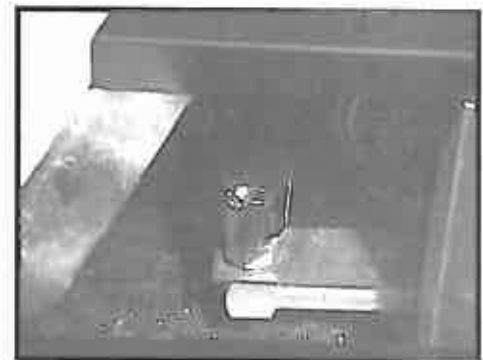

Figure 34 - Air Shutter
- c. To prevent the possibility of soot buildup, we have provided your fireplace with an adjustable air shutter (two burners/two air shutters on the propane version). Your air shutter is provided in the "OPEN" position for natural gas and in the "OPEN" position for propane. In the event soot is accumulating in your fireplace, the air shutter should be checked to make sure it is fully open. This can be done by opening the control access panel, locating the adjustable air shutter and opening as far as necessary to eliminate as much soot as possible. See Figure 34.